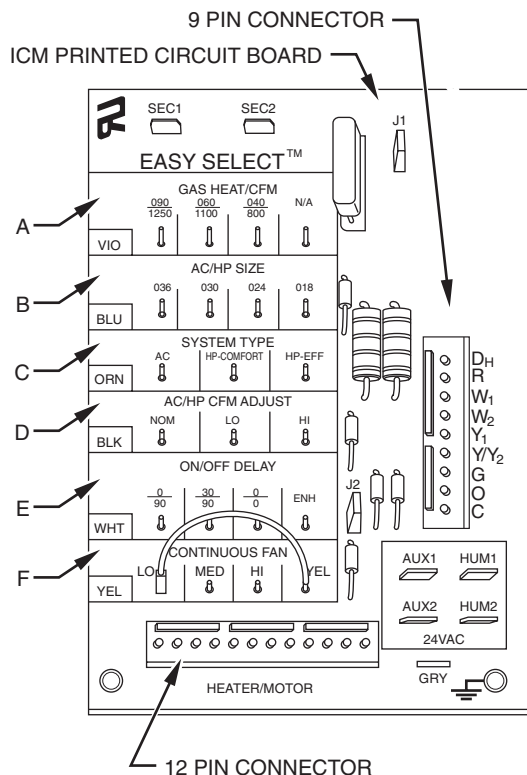

Fig. 12—Detail of SPP Printed-Circuit Board
basic system (see information printed on circuit board label located next to select pins), move the 6 select wires to the pins which match the components used (See Fig. 12).
pump heating modes. HI provides 15 percent airflow over nominal unit size selected and LO provides 10 percent airflow below nominal unit size selected. Adjust selection options are provided to adjust airflow supplied to meet individual installation needs for such things as noise, comfort, and humidity removal (See Fig. 12, D as indicated).
Four motor operation delay profiles are provided to customize and enhance system operation (See Fig. 12, E as indicated).
- (3.) HI speed—Move connector to HI, 100 percent cooling mode airflow (See Fig. 12, F as indicated).
The following system configuration is recommended for maximum cooling/dehumidifying comfort (See Fig. 12).
The AUX and HUM terminals on the Easy Select™ Board are tied directly to the G terminal, and provide a 24-v. signal whenever the G terminal is energized (See Fig. 12). During Super dehumidify mode, the G signal is not present and the auxiliary terminals are not energized. If the installation includes the use of this operating mode, do not use these terminals to control accessories. See Electronic Air Cleaner and Humidifier sections for further information.
Easy Select™ Board terminals HUM1 and HUM2 are provided for direct connection to the low-voltage control of a humidifier through a standard humidistat (See Fig. 12). These terminals are energized with 24-v. when G thermostat signal is present (See Fig. 13 & 14). Alternately, the 24-v. signal may be sourced from the W and C on the 9 pin connector. When using a Thermidstat™ Control, Zone Comfort Plus or Comfort Zone II, the 24-v. signal may be sourced directly from the Thermidstat™ HUM terminal (See Fig. 12, 13 & 14).